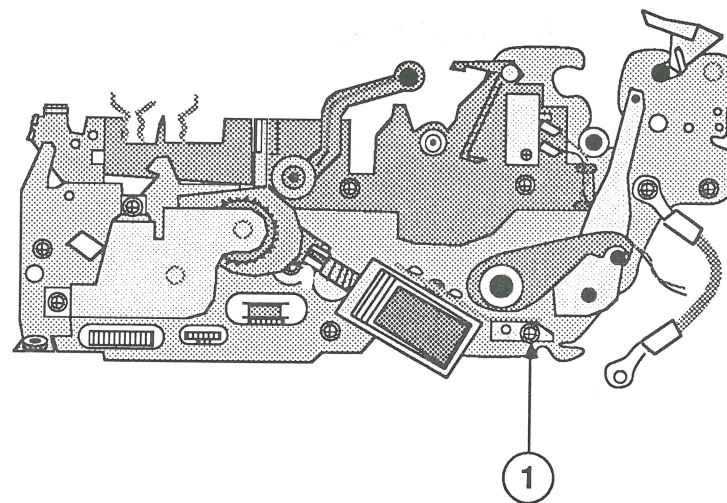

FIGURE 45
4. Remove the Phillips screw that secures the auto-load solenoid to the right-side frame (Figure 45, #1) and remove the solenoid.